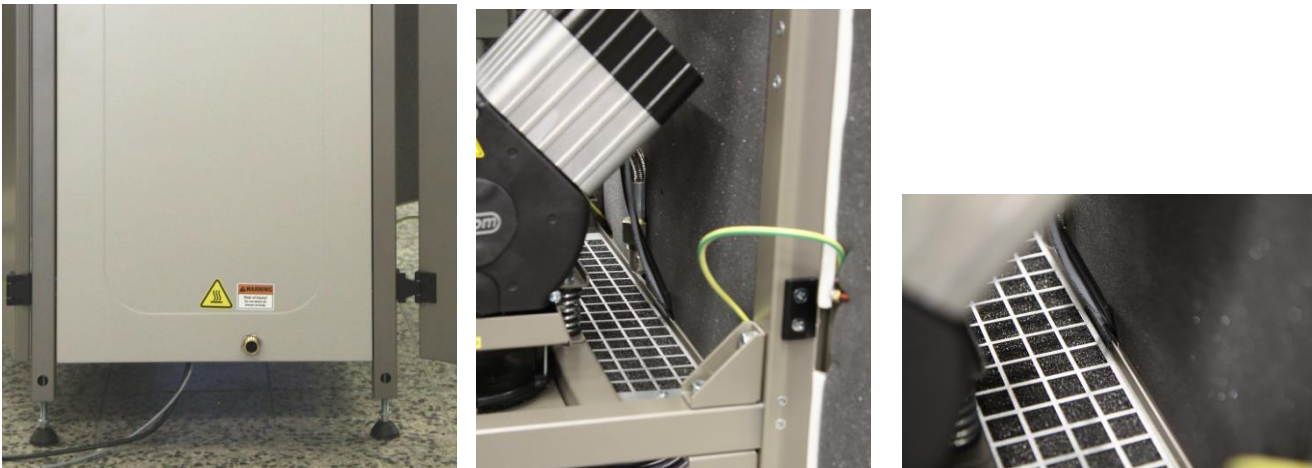

Fig.12
- Connect the compressor module to sensor B1 located on the air tank using the W23 cable, which is terminated with a valve connector. (Fig.12, Fig.14)